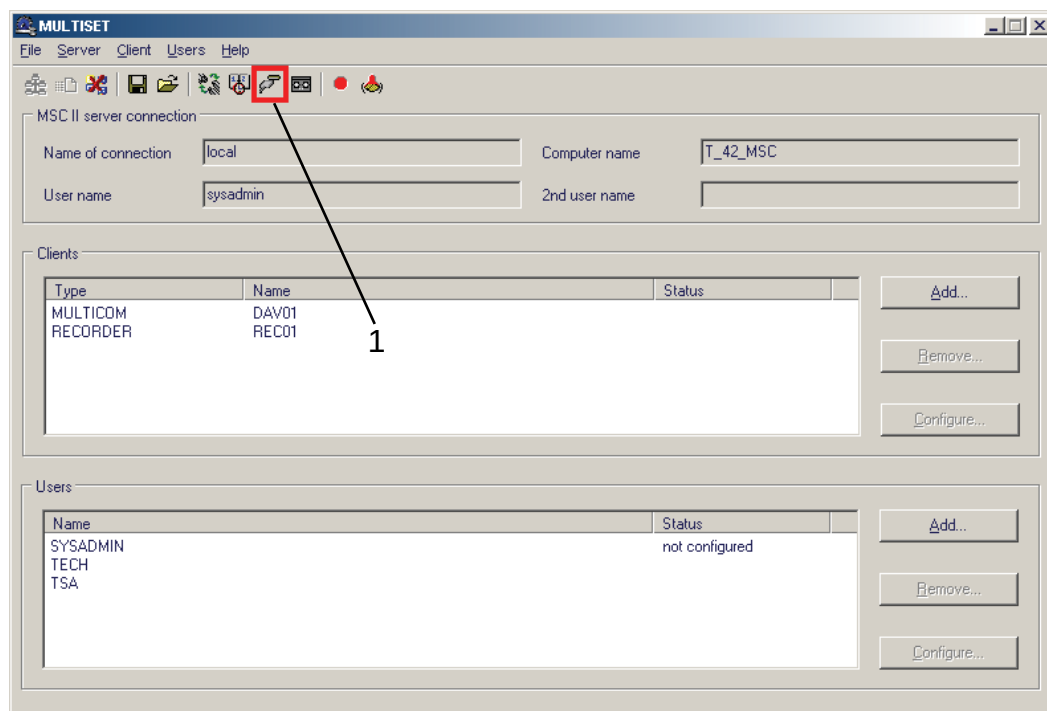

Figure 9-2: MultiSet main view
- Next, select the button "COM Ports" (see 1 in figure 9-2).
- In order to carry out the allocation, select the recorder in the field "Clients" in the main view (figure 9-2).